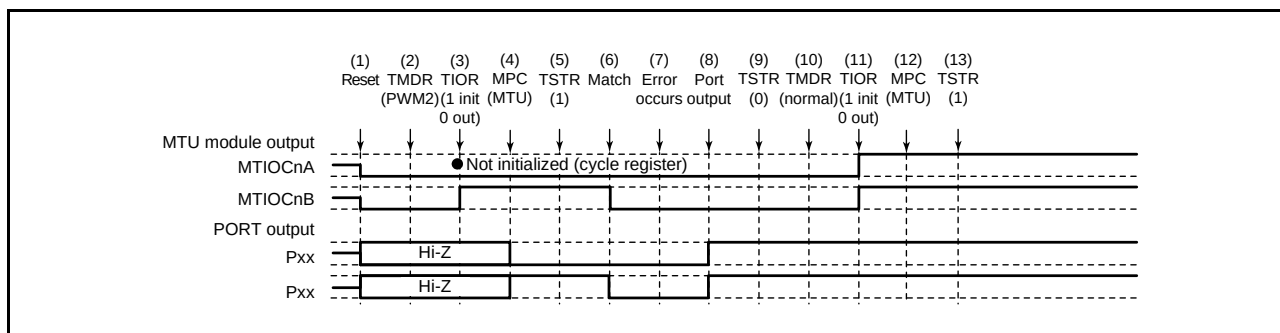

Figure 23.128 Error Occurrence in PWM Mode 2, Recovery in Normal Mode
Figure 23.128 shows a case in which an error occurs in PWM mode 2 and operation is restarted in normal mode after re-setting.
(1) to (9) are the same as in Figure 23.128.
(10) Set PWM mode 1.
(11) Initialize the pins with the TIOR register. (In PWM mode 1, a waveform is not output on the MTIOCnB (MTIOCnD) pins. If a level is to be output, make the required general output port settings in the I/O port's port direction register (PDR) and port output data register (PODR).)
(12) Use the MPC and the port mode register (PMR) for the I/O port to set up MTU output.
(13) Restart operation by setting the TSTR register.
(15) Operation When Error Occurs in PWM Mode 2 and Operation is Restarted in PWM Mode 2
(10) This step is not necessary when restarting in PWM mode 2.
(11) Initialize the pins with the TIOR register. (In PWM mode 2, a waveform is not output on the cycle register pins. If a level is to be output, make the required general output port settings in the I/O port's port direction register (PDR) and port output data register (PODR).)
(16) Operation When Error Occurs in PWM Mode 2 and Operation is Restarted in Phase Counting Mode
(10) Set the phase counting mode.
(11) Initialize the pins with the TIOR register.
(17) Operation When Error Occurs in Phase Counting Mode and Operation is Restarted in Normal Mode